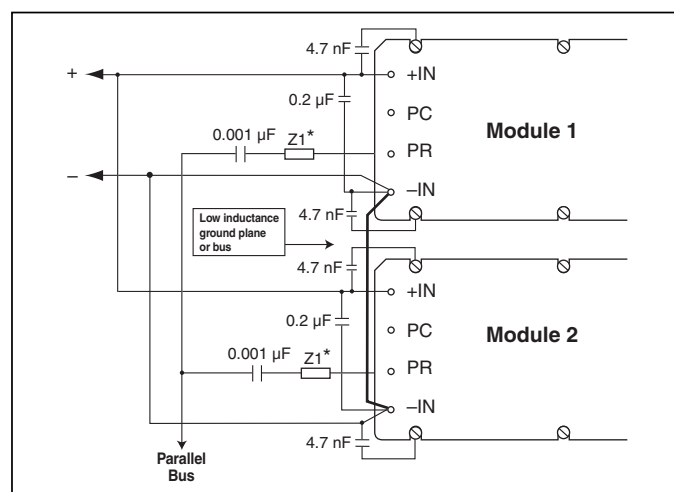

Figure 9 — AC coupled single-wire interface.
**AC coupled single-wire interface.** All PR pins are connected to a single communication bus through 0.001 μF (500 V) capacitors. This interface supports current sharing and is fault tolerant except for the communication bus. Up to three converters may be paralleled by this method. See Figure 9.